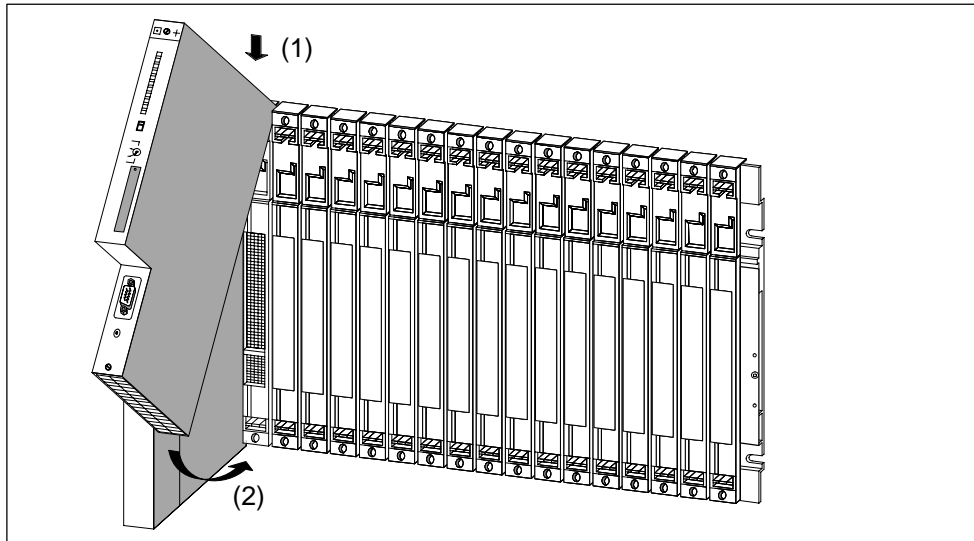

Figure 2-6 Attaching the Modules
4. Attach the first module and swing it downwards (see Figure 2-6).